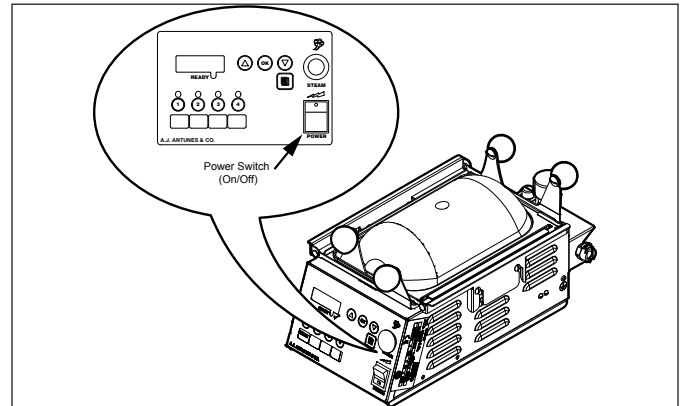

Figure 5. Control Panel and Power Switch
1. Press and hold the **PROGRAM** button until “**CYC**” appears on the display (Figure 5) then release the **Program** button.
NOTE: To save Programming changes, be sure to press the **PROGRAM** button (Figure 5) as soon as changes are made.